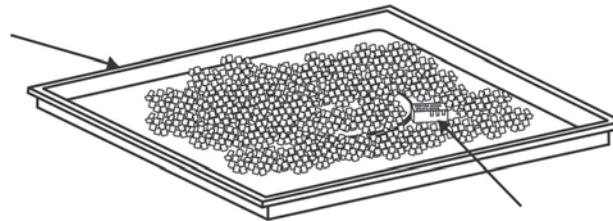

Figure 10
10. Pour the lava rocks into the burner pan completely covering the burner. See Figure 10.